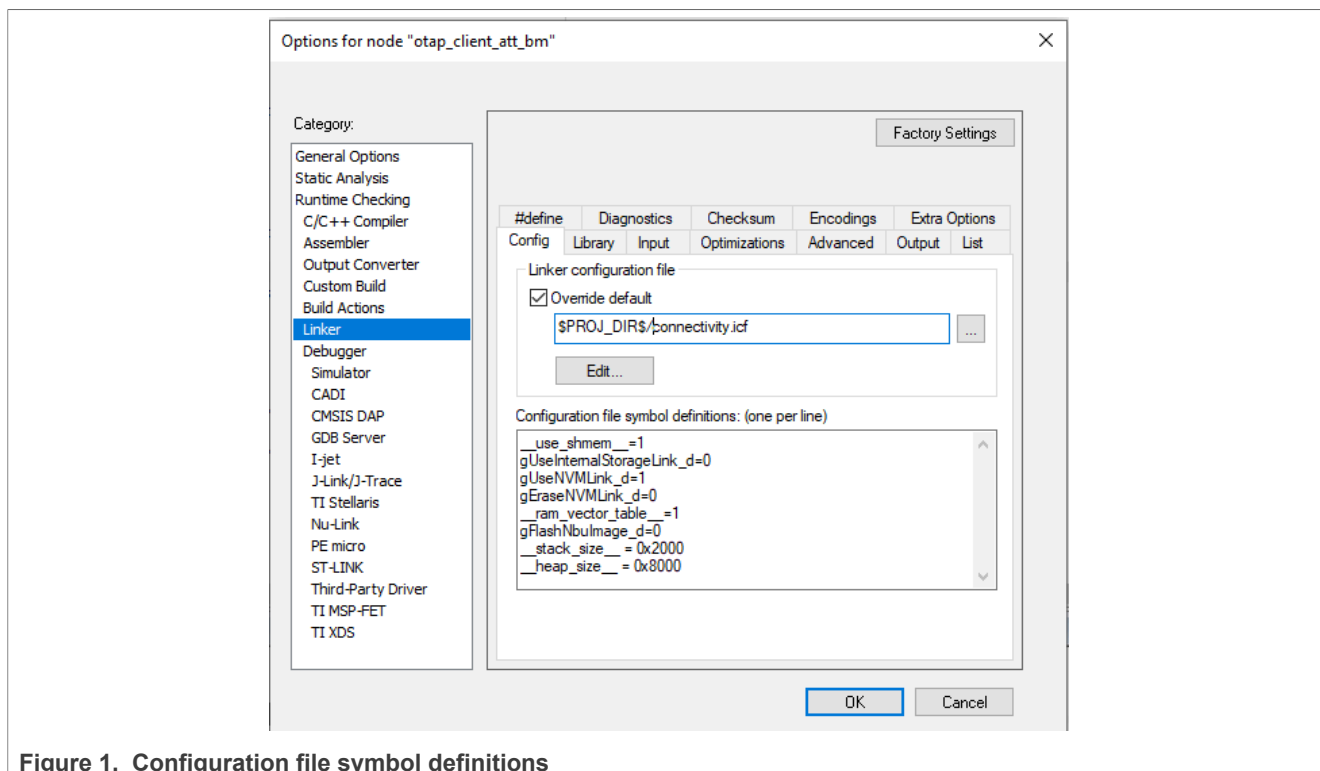

Figure 1. Configuration file symbol definitions
- b. The OTAP demo applications for IAR EW IDE have some setting in the linker options as shown in Figure 1.